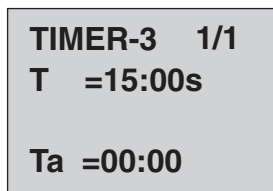

Fig. 8
8. Press **ESC** and use the arrow up/down keys ▲ or ▼ to select the next parameter to change (Timer -3). Repeat steps 4 and 5 to change the Timer-3 parameters. (See figure 8)